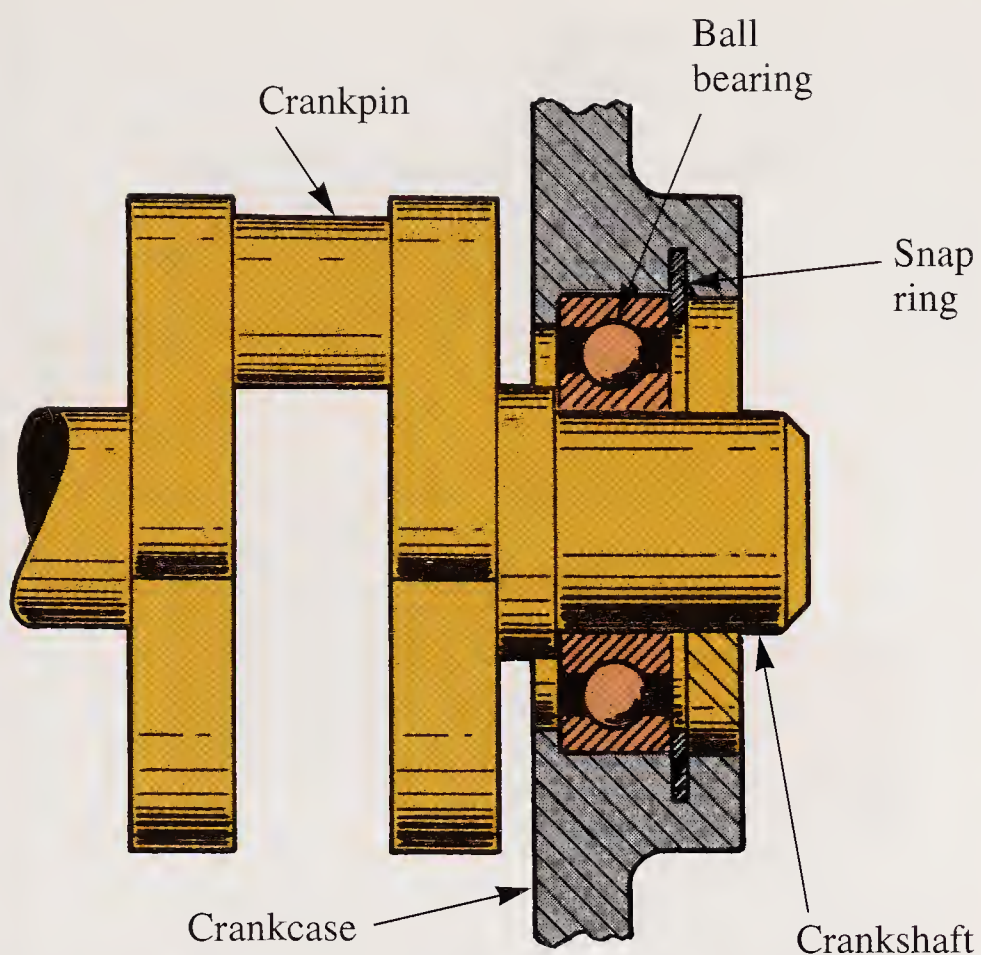

Figure 17-16. A ball bearing also can be used as a crankshaft main bearing.
- Ball bearing. See **Figure 17-16**.